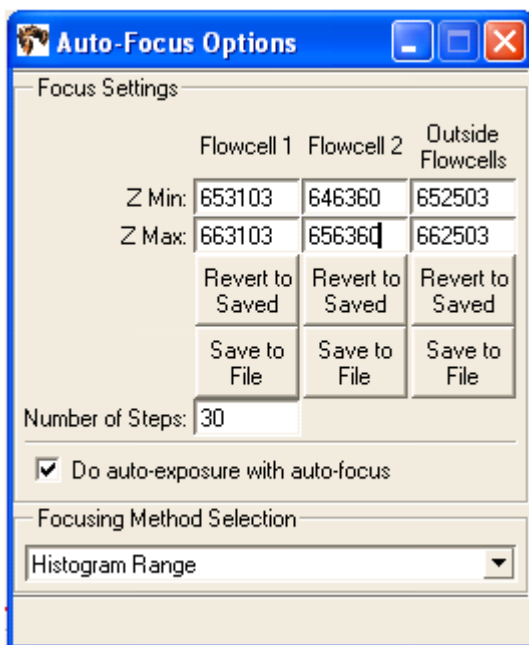

Figure 91 Enter the focus settings.
10. Subtract 5000 counts from the calculated average, then enter that value in the Z Min box. Add 5000 counts to the average, then enter that value into the Z Max box. Confirm that the Number of Steps is 30. Click **Save to File** (see Figure 91).